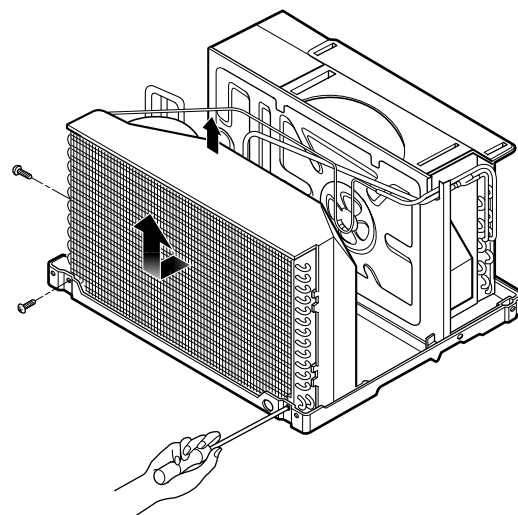

Figure 14
6. Re-install the component by referring to notes. (See Figure 14)